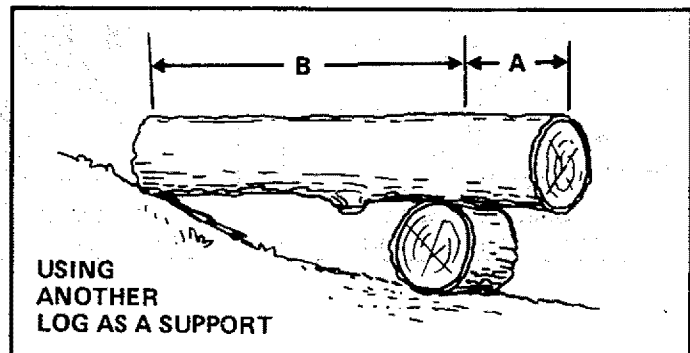

Figure 34
4. BUCKING — USING ANOTHER LOG AS A SUPPORT (Figure 34):